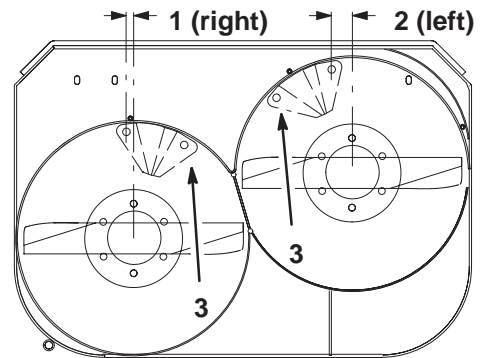

Figure 5
1. Measure from the spindle center lines, and locate kickers as shown (Fig. 5). Position one kicker 7/16 inch (11 mm) off to the right of the right spindle and one kicker 1-7/8 inch (48 mm) off to the left of the left spindle (Fig. 5).
2. Holding kickers tight against baffle, mark, center punch and drill 2 holes (11/32 inch) holes for each kicker (Fig. 5).